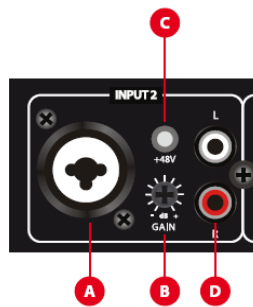

Fig. 6
Operating this trimmer regulates the MIC/LINE input sensitivity on the COMBO connector. GAIN does not operate on input RCA (**Fig. 6, ref. D**).
- c. With regard to inputs 1~5, adjust the input sensitivity appropriately by means of the trimmer **GAIN (Fig. 6, ref. B)**.